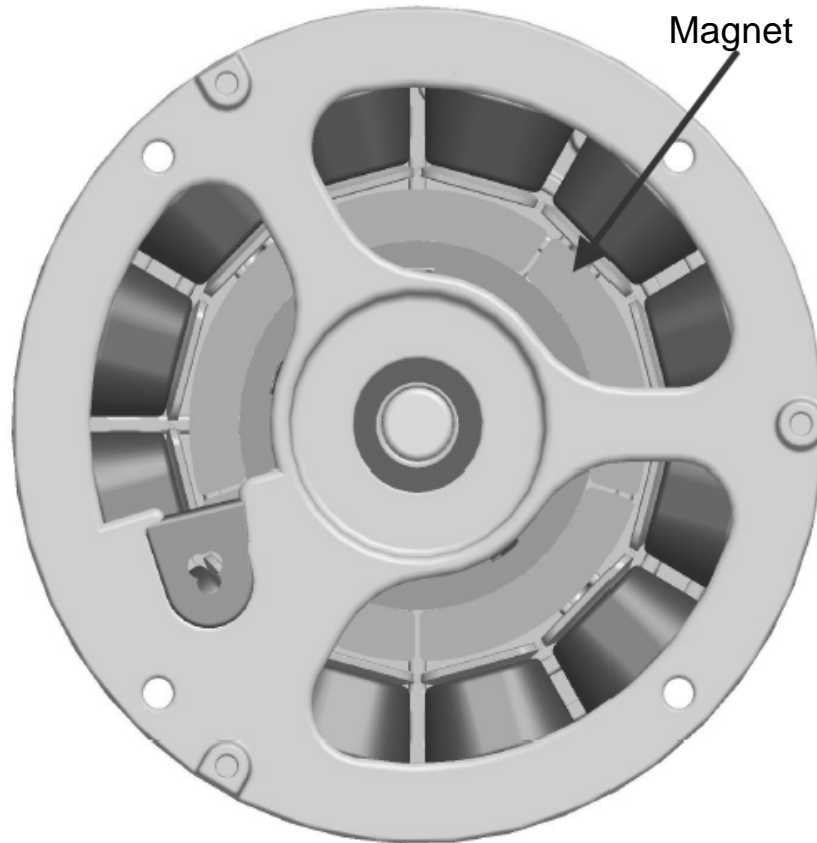

Figure 16
7. Inspect the magnets through the back side of motor for broken or chipped magnets on the rotor core [Figure 16].